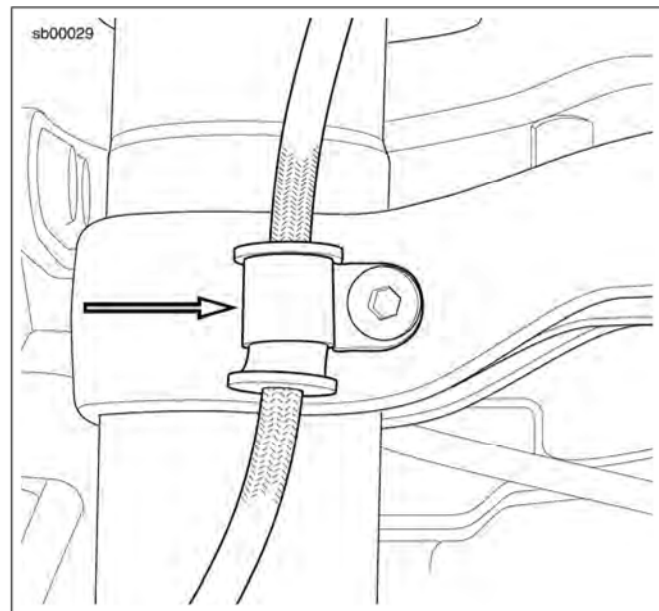

Figure 2. Front Brake Line P-Clamp: 1125R/XB12R Replacement
9. **1125R/XB12R:** See Figure 2. Install and position the P-clamp. Tighten to 36-60 in-lbs (4-7 Nm).